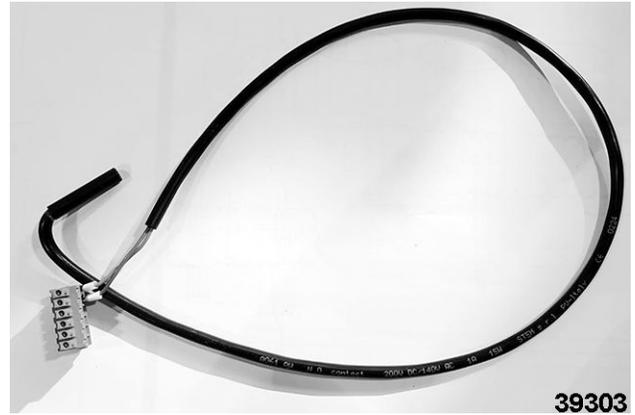

Fig. 43
5. Pull switch (2, Fig. 42) up to slide out harness (Fig. 43).